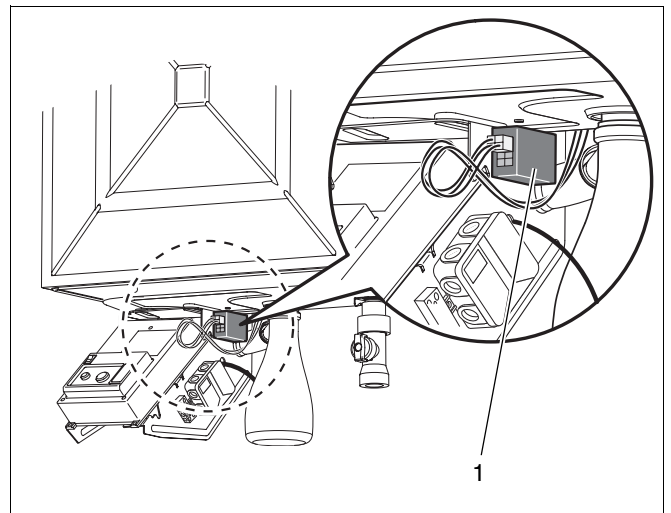

Fig. 58 KIM connections
- Check if 4 pin connector (fig. 58, item 1) is fitted and secure.